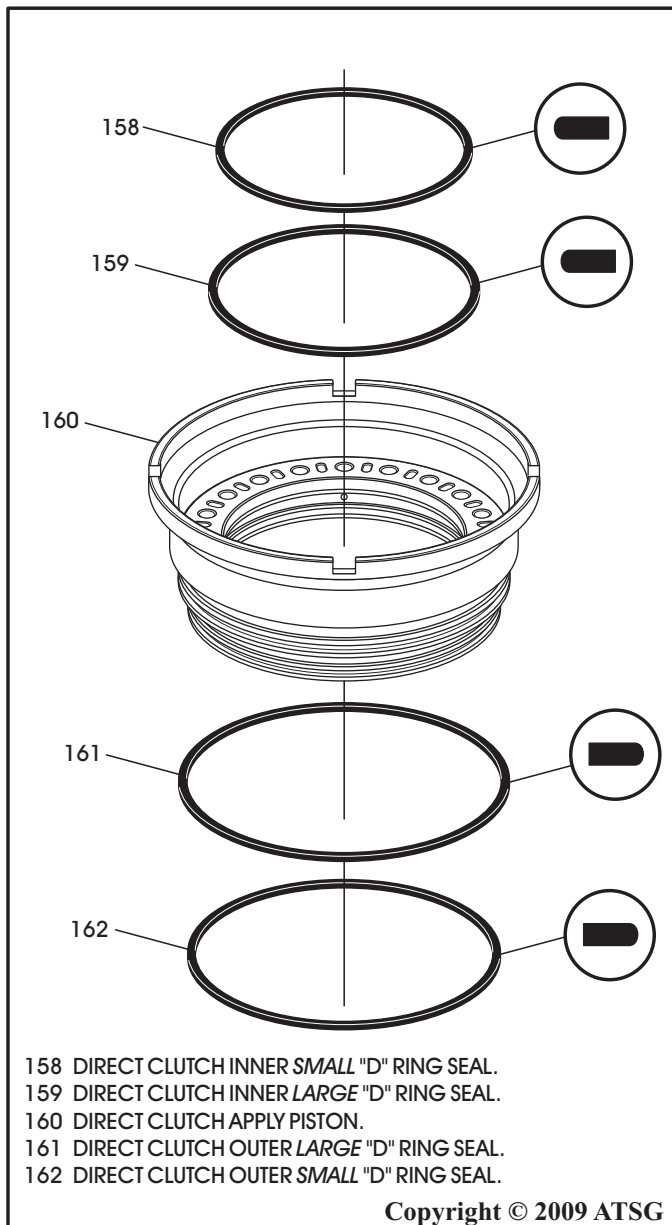

Figure 140
4. Install new inner "D" ring seals onto the direct clutch piston, as shown in Figure 140.
5. Install new outer "D" ring seals onto the direct clutch piston, as shown in Figure 140.